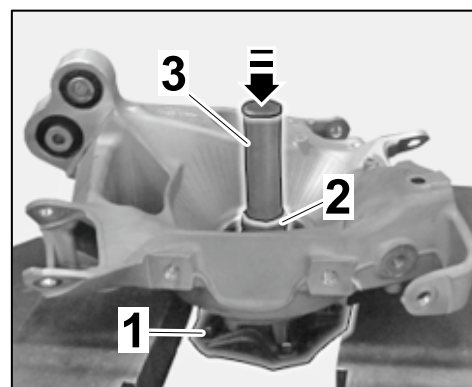

Figure 15
- 2.3.1 Press wheel hub out of the wheel carrier (at the left/right) (⇒ *Figure 15*).